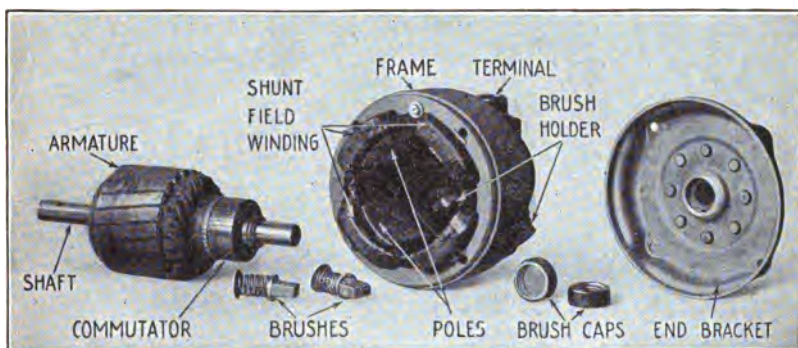

Fig. 360. Westinghouse Four-Pole Generator for Six-Volt Double-Unit Single-Wire System
**Generators.** Four types of generators are made, as illustrated in Fig. 116, Part III; in Fig. 157, Part IV; and in Fig. 360, shown herewith, the fourth being similar to the unit shown on this page except for the method of regulation employed, which is of the third-brush type.